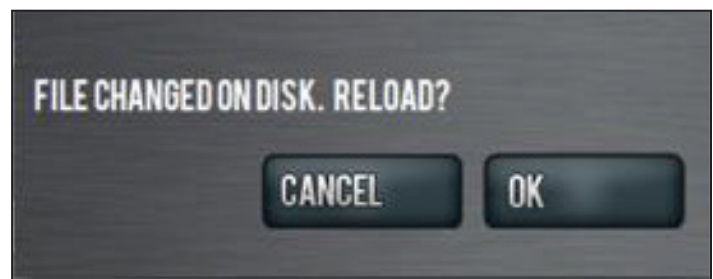

Figure 5.13
3. Close the text editor by clicking on the X in the upper right-hand window of the screen. When asked to reload the file, click *OK* (see **Figure 5.13**).